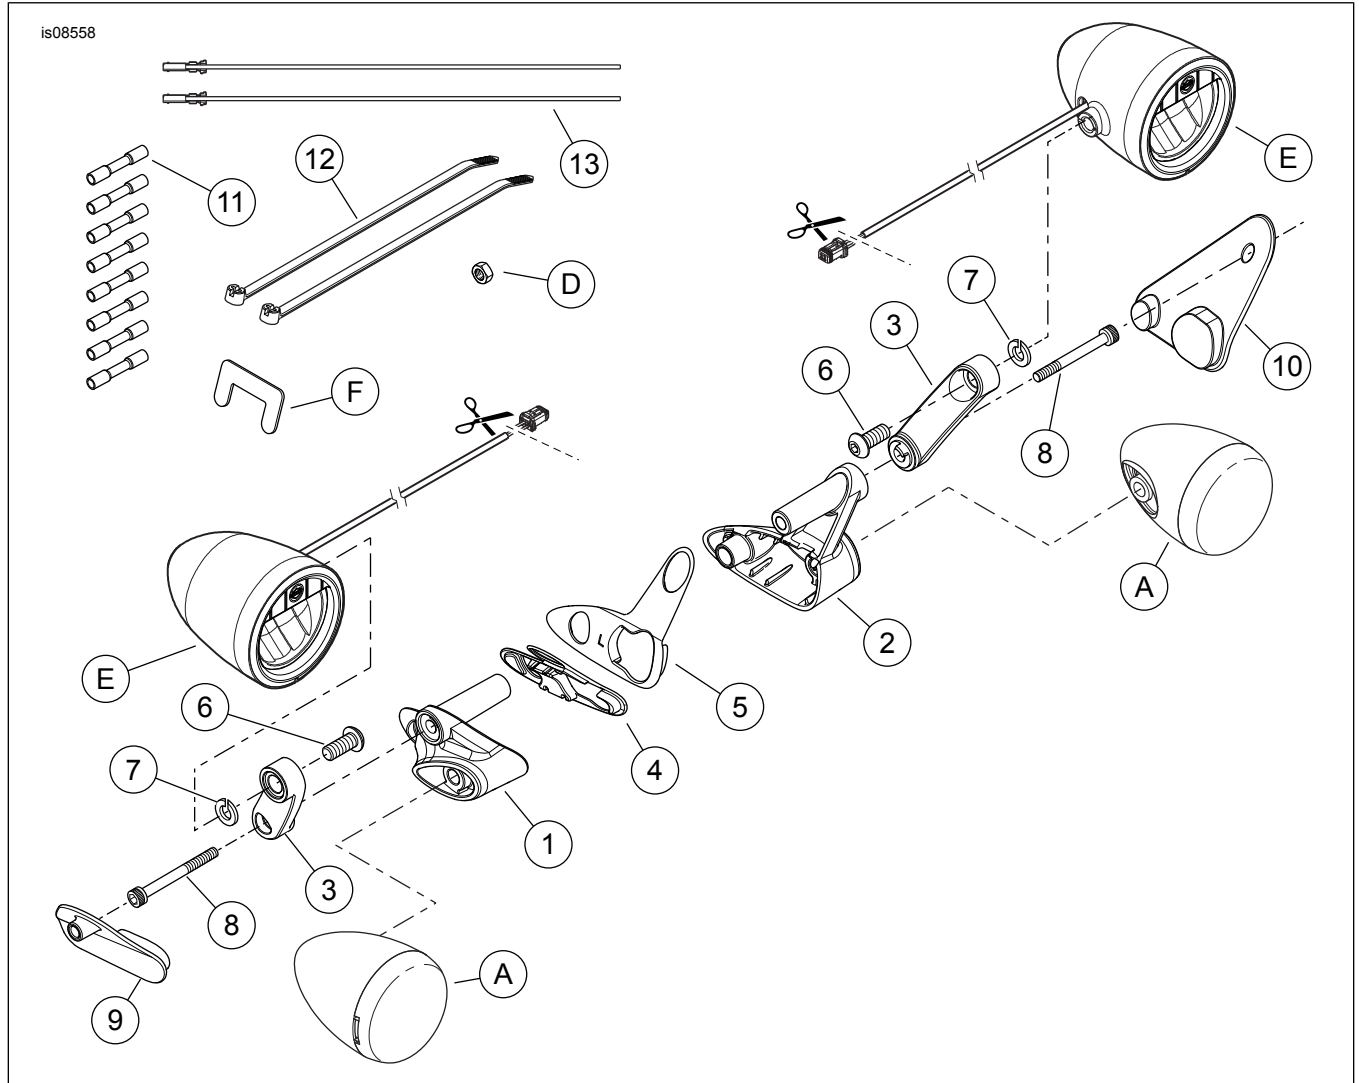

Figure 7. Service Parts, Road Glide LED Auxiliary Lamp Kits
See Figure 7 and Table 1.
5. See Figure 7. Get the drill guides (9, 10) from the kit. Temporarily position one drill guide into the correct turn signal mounting cavities on one side of the fairing. Note the areas where the drill guide is in contact with the fairing paint.